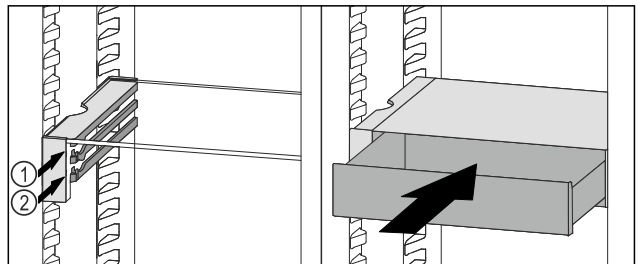

Fig. 122
- Place the VarioSafe drawer behind the stoppers on desired rib *Fig. 122 (1)* or *Fig. 122 (2)*.